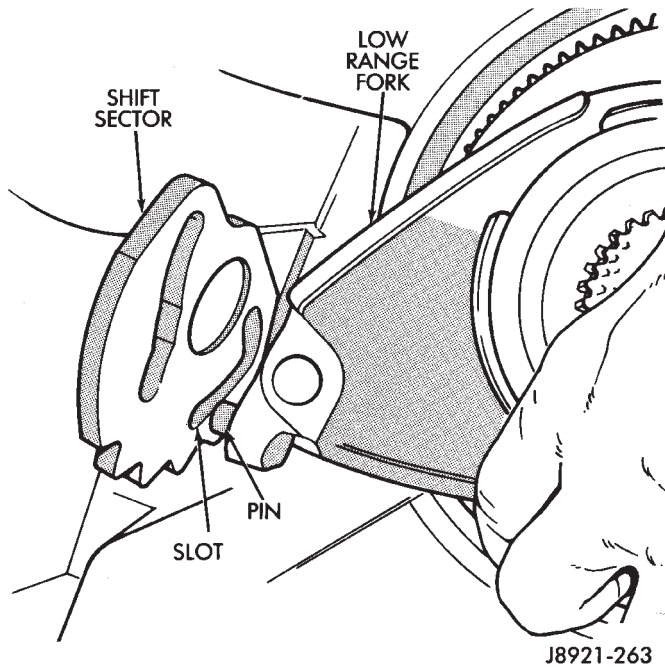

Fig. 31 Shift Sector Position
(39) Remove the shift sector (Fig. 31).